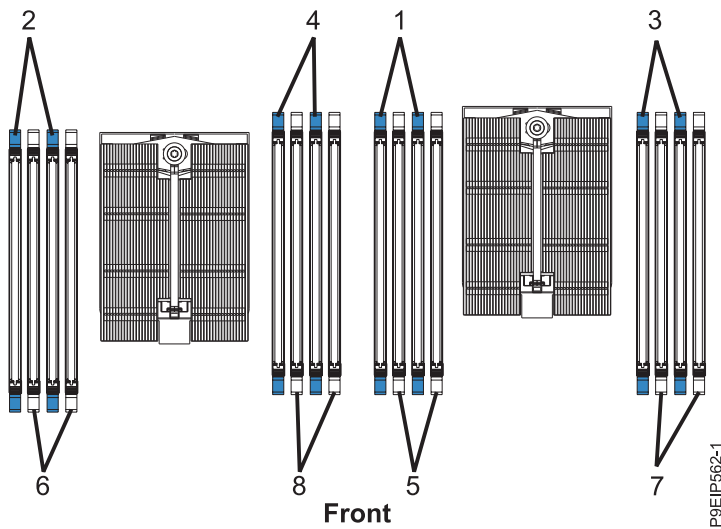

Figure 15. Two processor memory plugging sequence
- For a two processor system, use Table 2 and Figure 15 on page 19 to determine the memory placement.